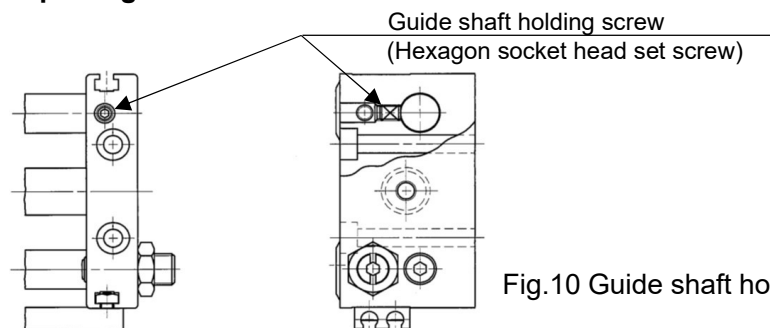

Fig.10 Guide shaft holding screws
④ **The set screws in the Fig.10 below are for securing the guide shaft, so do not loosen them except for the purposes of replacing the seals.**